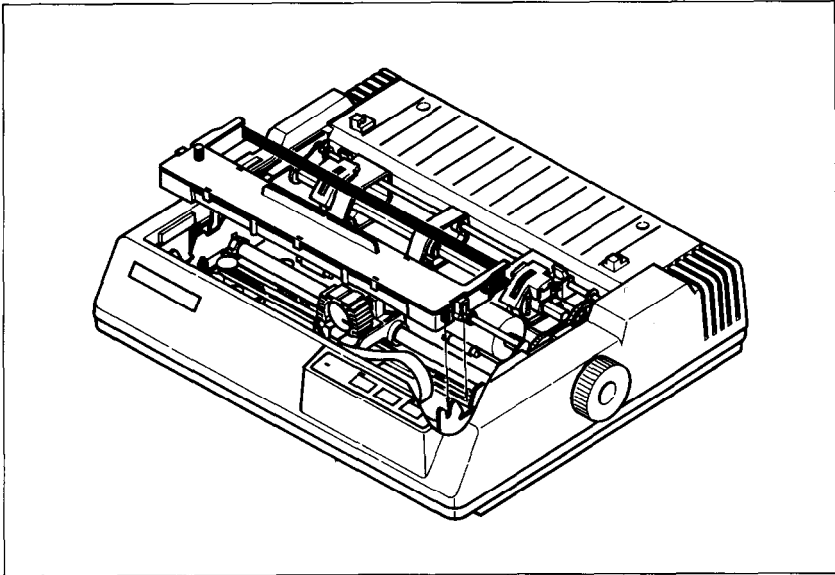

Figure 1-4. Press the cartridge into place until the holding springs snap into place.
4. With the ribbon facing away from you, use the guide holders as a fulcrum, and lightly press the cartridge down until the two holder springs snap shut to hold the cartridge firmly in place. See Figure 1-4.